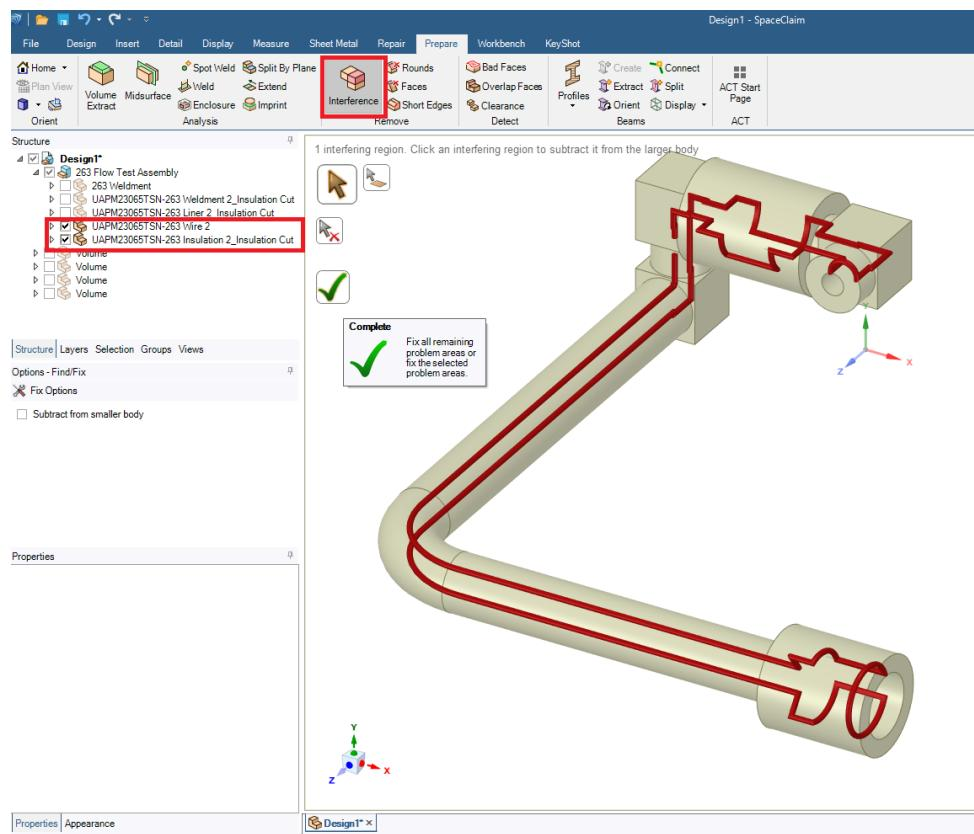

Figure 1.37:
3. Our Liner is now ready to go leaving just the Insulation to be modified before we should be simulation-ready. We will accomplish this by once again using the Interference Tool to subtract the area from the Insulation that is intersecting with the wire. (Remember to only have the Insulation and Wire shown when performing this operation.) Like before the area we are removing should be highlighted in red (Figure 1.37). Once the check mark has been selected the intersecting area will be subtracting from the Insulation resulting